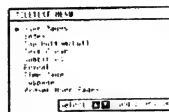

Fig. 45.
- 1 Press MENU. The menu will be superimposed on the teletext display. (See Fig. 45)